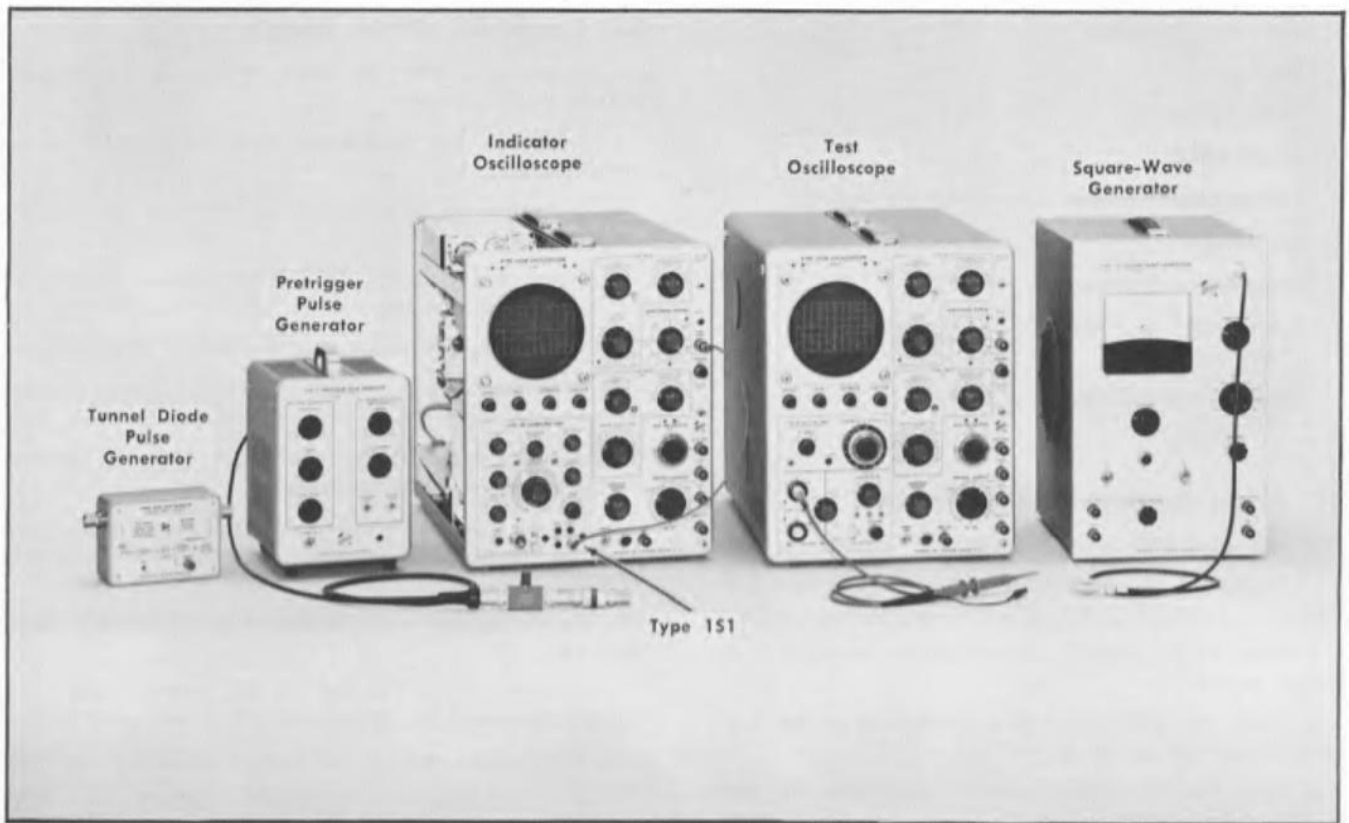

Fig. 5-44. Initial test equipment setup for steps 29 through 32.
- a. Test equipment setup is shown in Fig. 5-44.